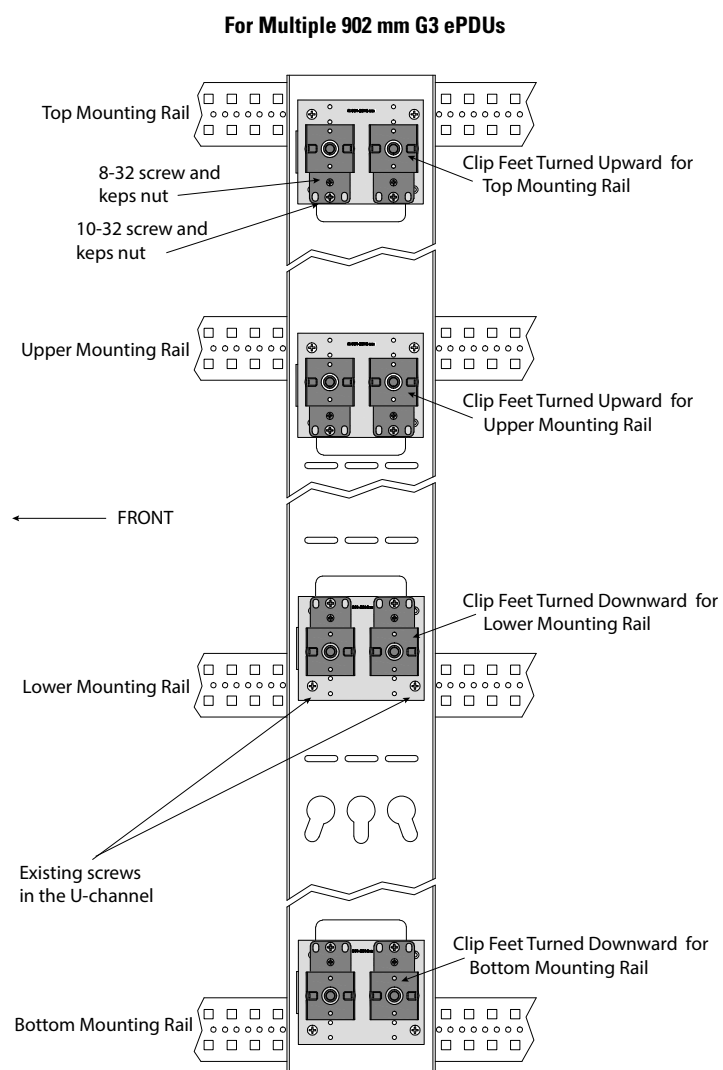

Figure 25. Multiple 902 mm Inboard
- **Multiple (up to four) 904 mm ePDUs inboard.** Outlets facing toward the other side of the rack, go to Figure 25 on page 37.